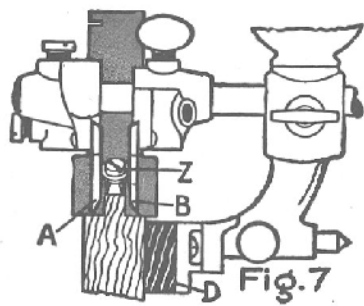

Fig. 7
Fig. 7—MATCHING (Tongue)— Insert the tonguing cutter and set the Stop (Z) attached to same, at the proper point to obtain the height of the tongue desired. Fence (D) regulates the position of the tongue on the edge of the board. The Gauge (G) and the Spurs are not used. With two cutters, boards varying from three-eighths of an inch to one inch in thickness can be matched in the center.